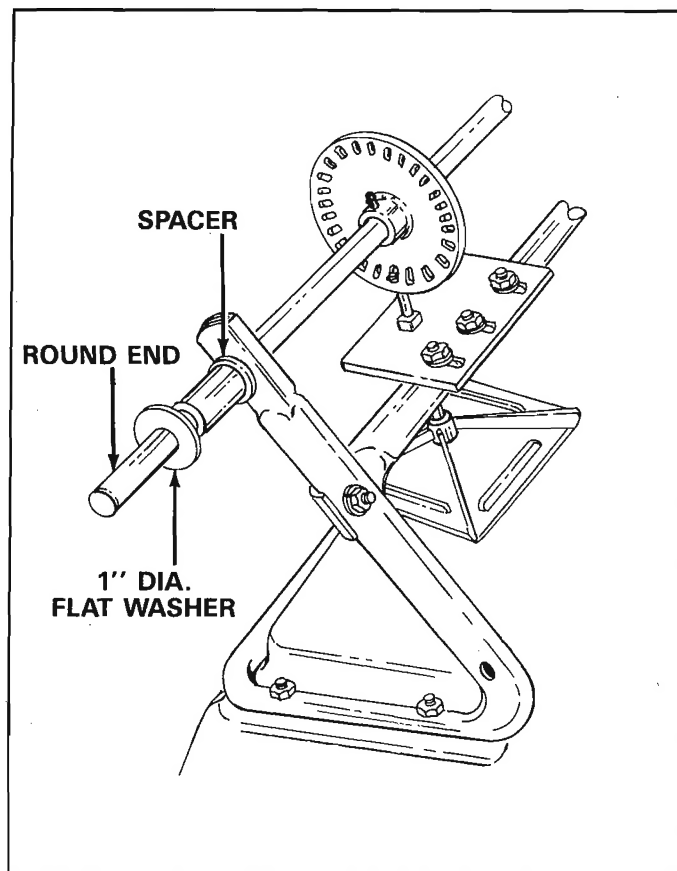

FIGURE 4
3. Assemble one spacer, and one 1" diameter flat washer to each end of axle. See figure 4.
4. Place wheel with round center hole onto round end of axle. The side of the wheel with the shortest hub must be toward outside of axle. See figure 4 and 5.